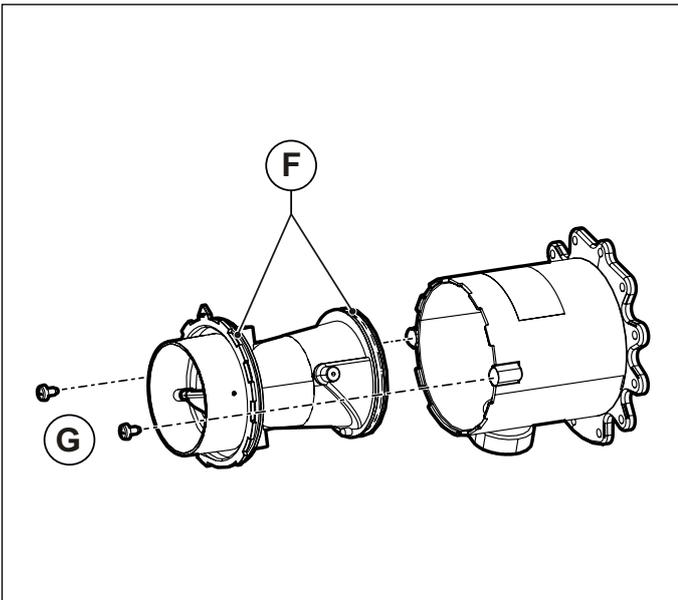

Fig. 34 Mixer plastic body
- Loosen the two retaining screws **G** and slide out mixer plastic body (see Fig. 34 Mixer plastic body).
- Screw the plastic body to the mixer using the **G** retaining screws. Take care not to damage the **F** O-rings and to comply with the assembly direction (see Fig. 34 Mixer plastic body and Fig. 35 Assembling direction).